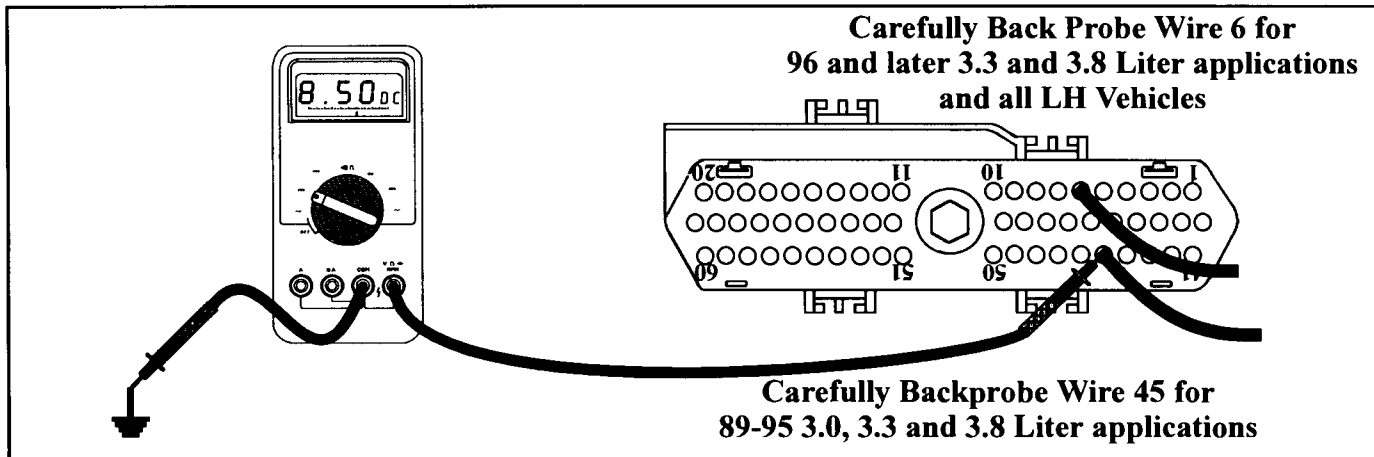
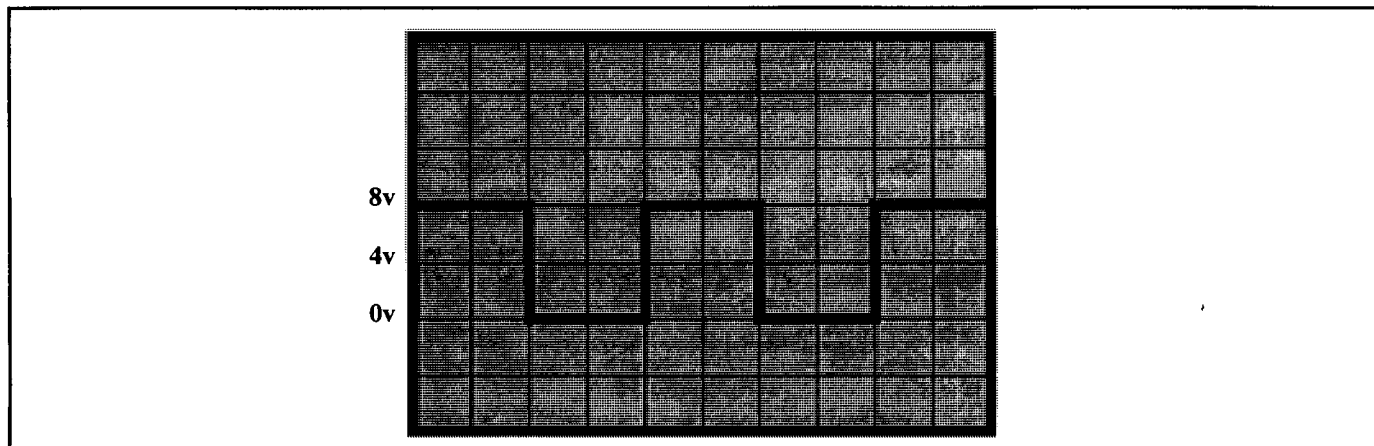

Figure 21
Figure 22
- With a DVOM set to DC volts, carefully back probe wire 45 at the TCM with the positive meter lead and place the negative meter lead to a good known ground (See Figure 21). With the key on and engine off, an 8 to 9 volt pulse should be seen as the crank shaft is turned by hand. If a voltage pulse is observed, the TCM needs to be replaced. If no volts are observed, go to the next step. **Note:** A square wave form is shown in Figure 22 for those that have oscilloscope testing capabilities (Test is performed with vehicle running).
- With a DVOM set to DC volts, using the positive meter lead carefully back probe wire 45 at the TCM for **89-95** 3.3 and 3.8L applications. For all LH vehicles and 96 and later 3.3 and 3.8L applications, back probe wire 6 at the TCM. Place the negative meter lead to a good known ground (See Figure 21). With the key on and engine off, approximately an 5 to 9 volt pulse should be seen as the crank shaft is turned by hand. If a voltage pulse is observed, the TCM needs to be replaced. If no volts are observed, go to the next step.